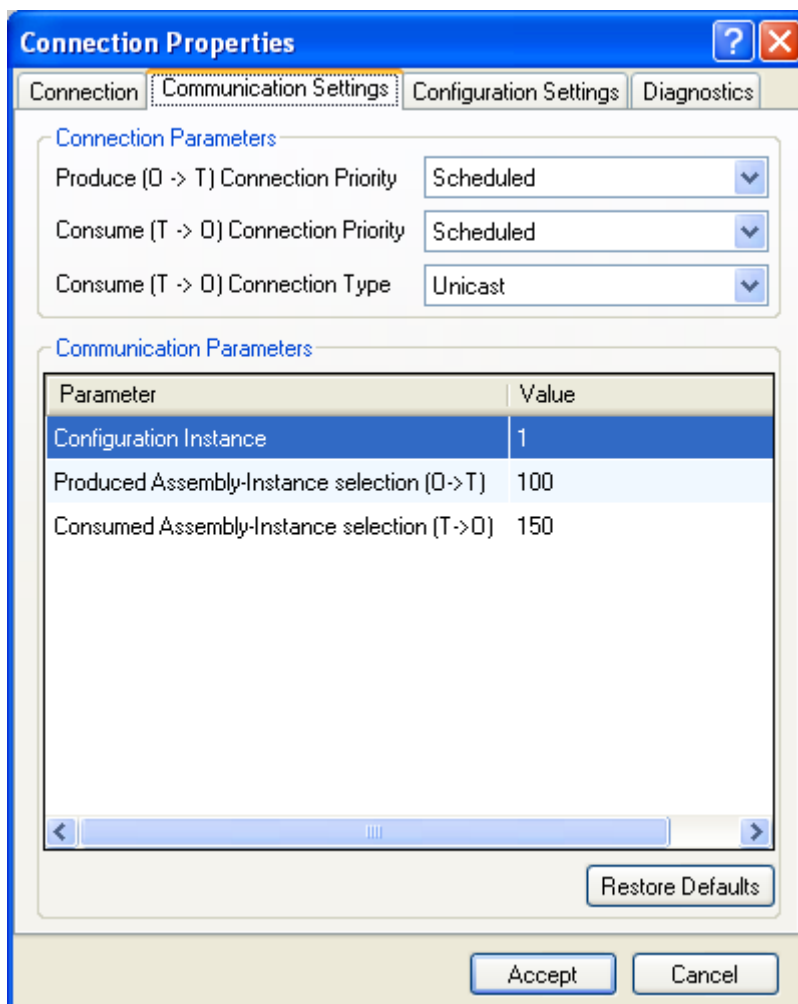

Figure 47: Generic Device Communication Settings
4. Configure the Communication Settings (refer to section 10.12 and Figure 47). The parameters have been defaulted to commonly used values. Modify the Connection Parameters and Communication Parameters as necessary.
5. Configuration of the Communication Settings is identical to the Generic Device (refer to section 10.12 and Figure 47). The parameters have been defaulted to commonly used values. Modify the Connection Parameters and Communication Parameters as necessary.